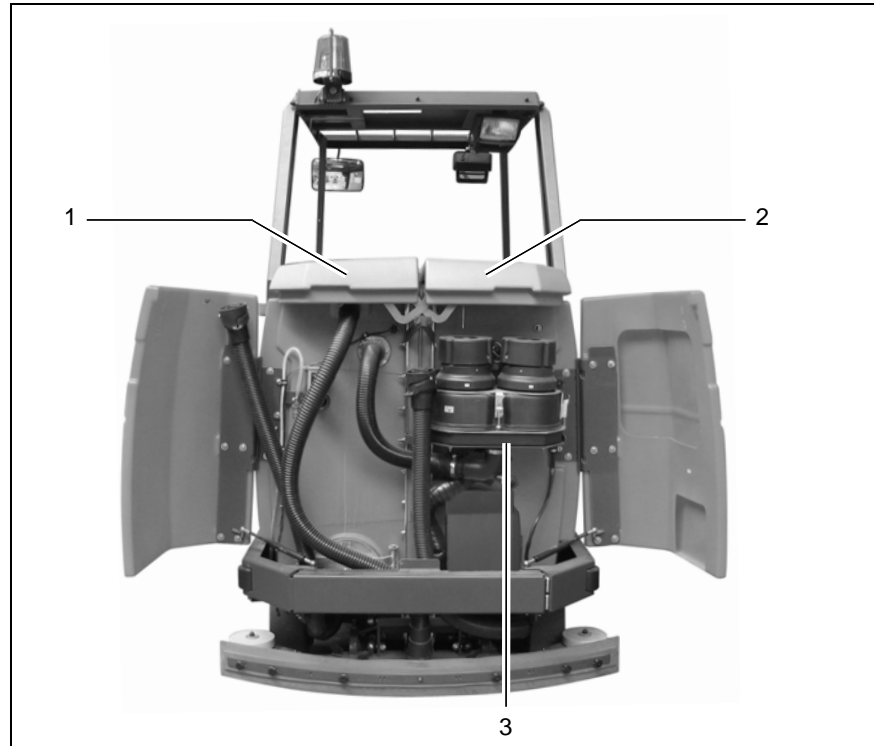

Fig. 12
(Fig. 12/3)
3.1.4 Solution tank (Fig. 12/2)
3.1.5 Recovery tank (Fig. 12/1)